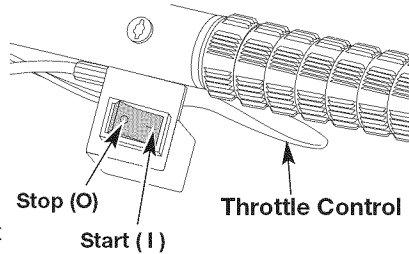

Fig. 6
**NOTE:** There is no need to turn the unit on. The On/Off Control is in the ON (I) position at all times (Fig. 6).
2. Press and hold On/Off Control in the OFF (O) position until engine comes to a complete stop (Fig. 6).